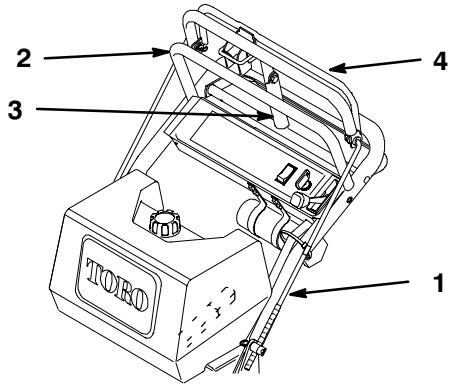

Figure 9
- Check the gap between upper control bar and fixed bar with wheel drive fully engaged. Gap should be approximately 1 to 1-1/4 in. (25-32 mm) (Fig. 9).
5. Check parking brake adjustment. Brake rods should be adjusted so parking brake lever is snug when swung into position against the fixed bar while pulling back on upper control bar (Fig. 9).